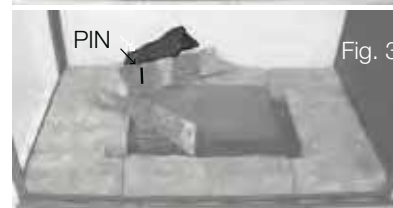

Fig. 3
4. Place log #3 onto the pin located in log #2 and let it rest on log #2, as shown in Figure 3 and in the left side view below. Place another pin into log #2 (**FIG.3**).